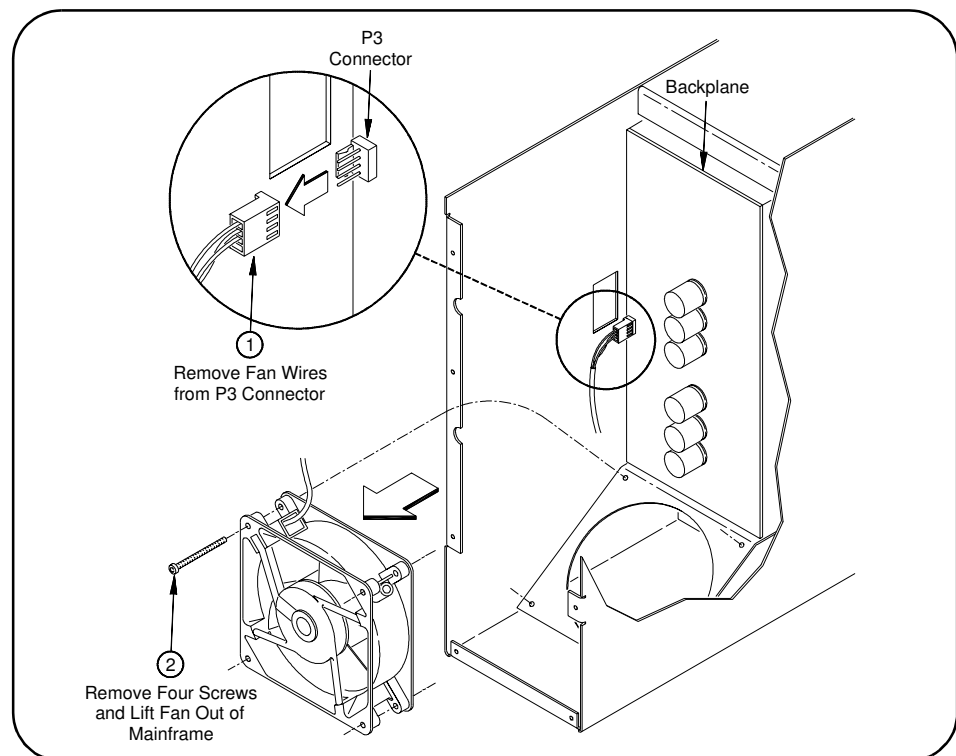

Figure 3-5. Removing the Fan Assembly
This section gives guidelines to replace the Fan Assembly in the E8408A mainframe (see Figure 3-5). See Table 3-1 for a replacement part number.
- 4 Remove the Fan Assembly by following the steps in Figure 3-5.
- 5 Install the replacement fan assembly by reversing the steps in Figure 3-5.